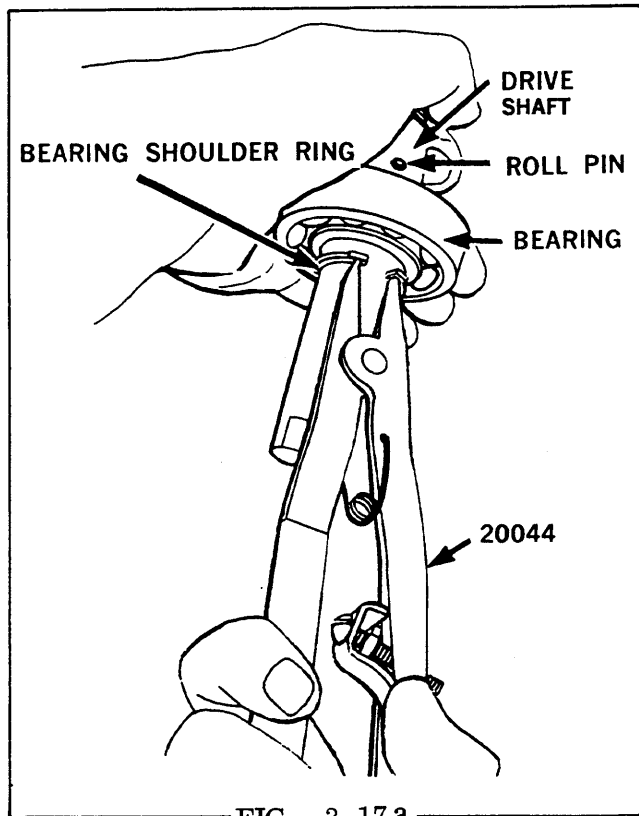

FIG. 3.17a
STEP 17 Remove the bearing shoulder ring using retaining ring pliers (No. 20044) (Fig. 3.17a). It may be necessary to press off the ball bearing assembly slightly in order to do this.